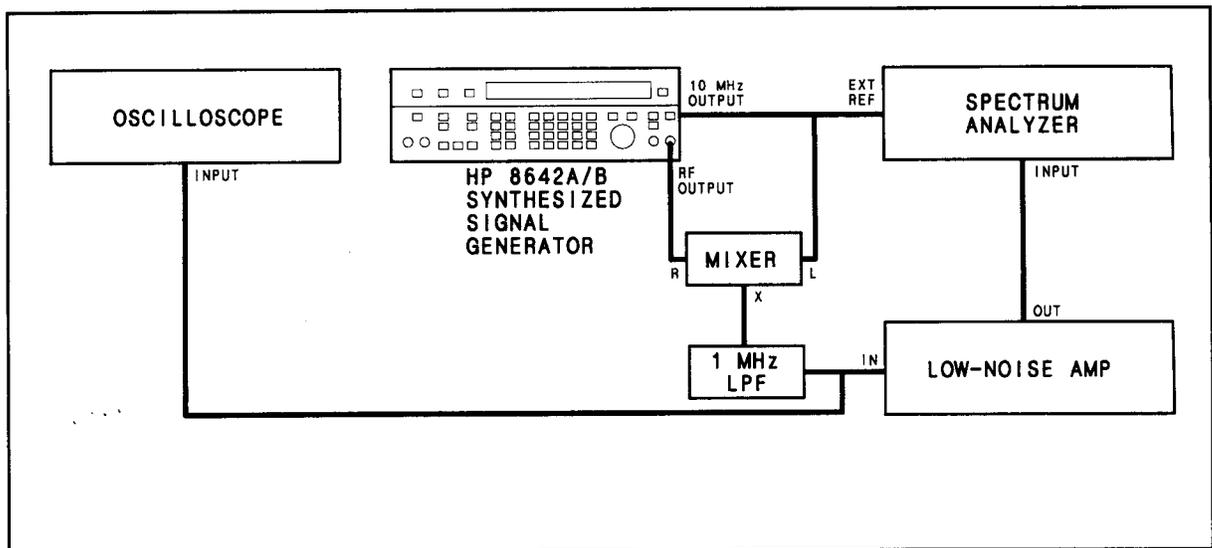

Figure 4-11. SSB Phase Noise Test Setup
1. Connect the instruments as shown in Figure 4-11. Preset the instruments. Insure that the spectrum analyzer center frequency calibration is accurate.